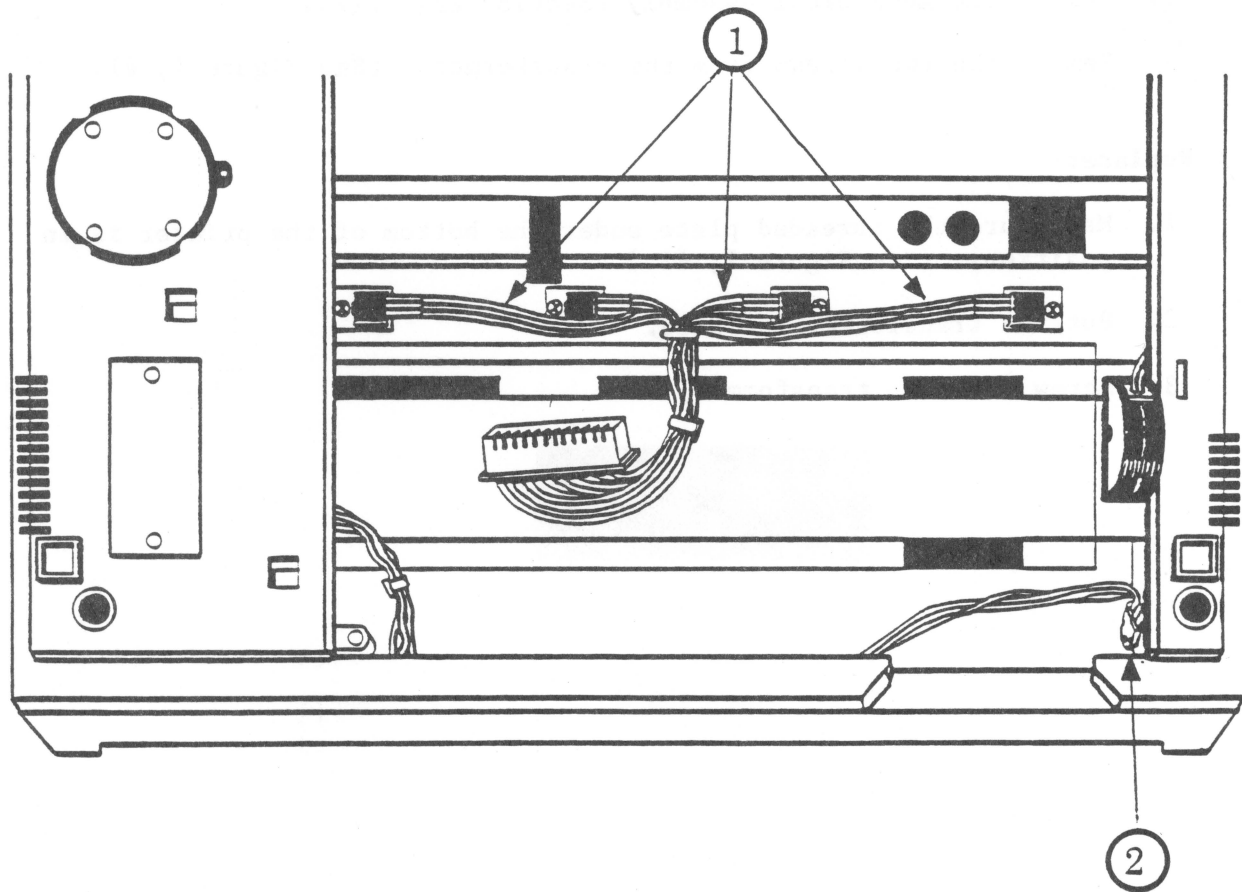

FIGURE 4
3. Note the location of the transistor assembly in Figure 4, #1.
3. Remove the screw from the voltage regulator transistor (Figure 4, #2) and carefully remove the transistor.